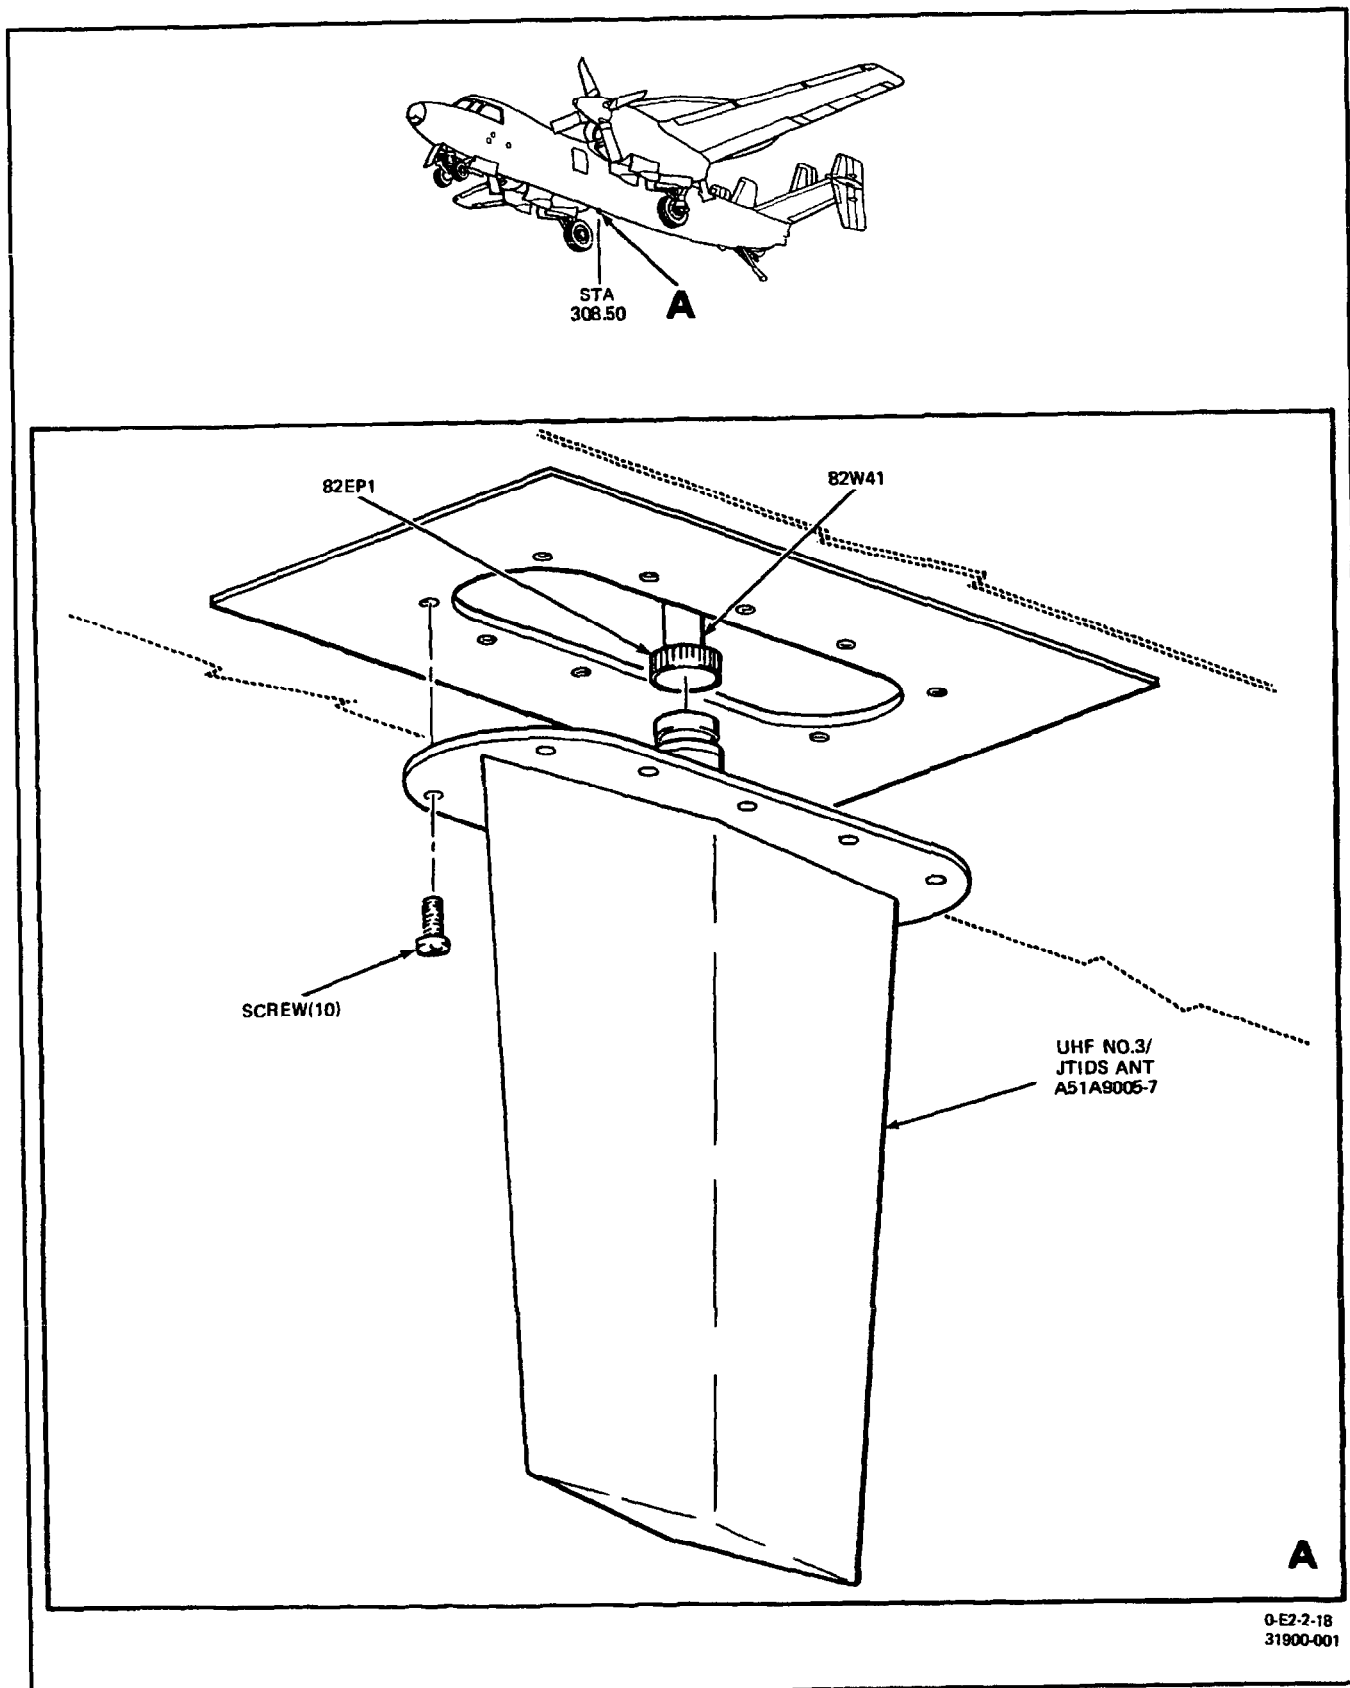

Figure 1. Removal and Installation of UHF No. 3/JTIDS Ant A51A9005-7
2. The UHF No. 3/JTIDS ANT A51A9005-7 (herein-after referred to as antenna) (82E2) is used with the Anti-Jam Antenna System. The antenna is at bottom of fuselage; station 308.50. See figure 1 for location of antenna.
3. REMOVAL. (Figure 1.)
4. **INSTALLATION.** (Figure 1.)